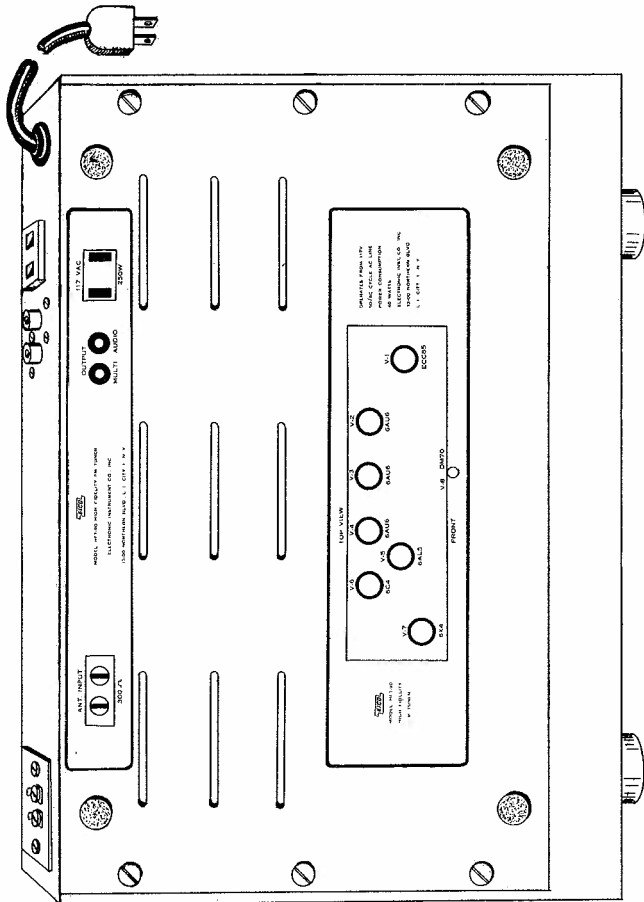

Fig. 11
13. ( ) Fig. 11. Remove the backings from the two labels supplied and place them on the outside surface of the bottom plate as shown.